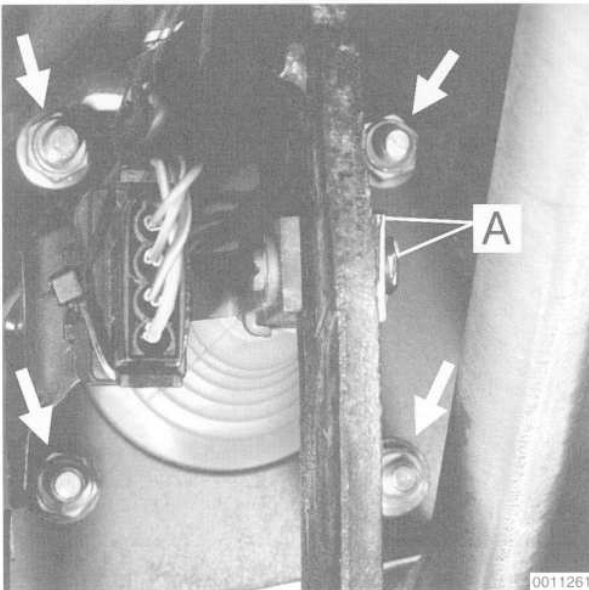

Fig. 13. Brake pedal clevis pin and retaining clip (A). Brake booster mounting nuts shown at arrows.
7. Remove the clip and clevis pin from the brake booster pushrod and disconnect it from the brake pedal lever. See Fig. 13.